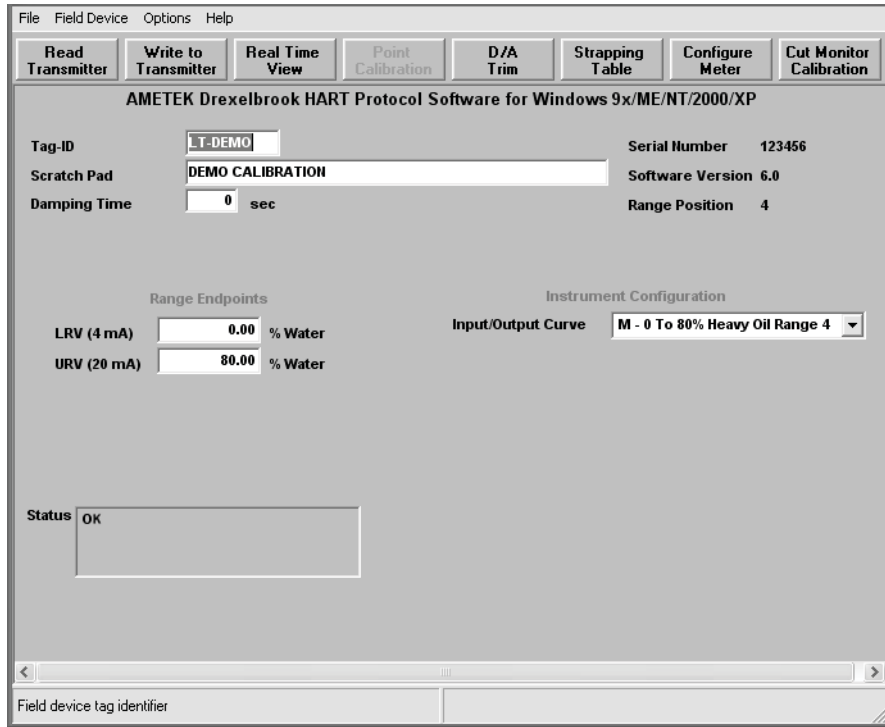

Figure 3-3
- G. The next view, shown in **Figure 3-3**, appears automatically, displaying current transmitter data for calibration set-up for your selected Tag ID. The Scratch Pad will automatically show the last message (last user, last calibration, etc.) up to 32 characters. If this is a new transmitter, the Tag ID is user-defined. Serial number, transmitter software version, range, etc. is automatically entered from the "name plate data" embedded in the transmitter: